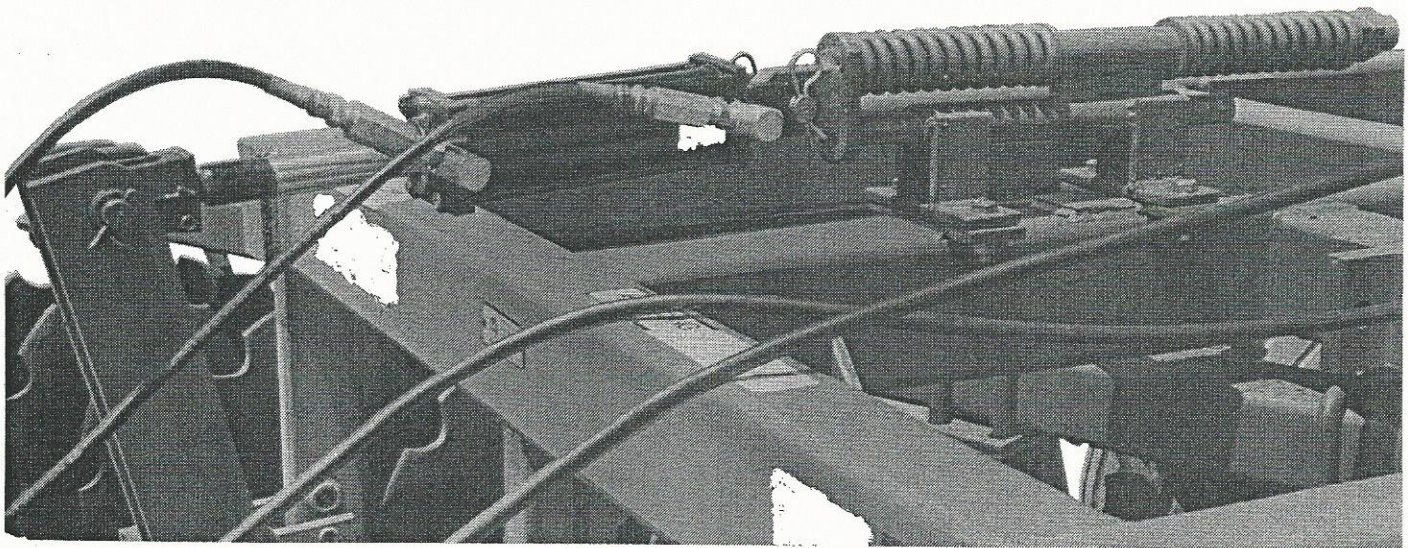

Figure 3
A. Hydraulic (Assembly for machines shipped after September 1985) Figure 3.
- (1) Attach Leveling Bracket Assembly with Springs and Rod to the Center Tube of the Mainframe with (4) $5/8 \times 2$ Bolts, Nuts, and Lock Washers with the Cylinder Anchor forward. The Spring should be compressed just enough to prevent excessive bounce when the machine is in transport.
- (2) Install Butt End of 3 x 8 Cylinder to Lug on end of Leveling Rod Assembly and Rod End to Cylinder Pivot on the Spreader Bar. Insert Retaining Pins securely. Tighten Clevis Locking Bolt.
The leveling of the Offset Disk Harrow is either by Hydraulics (Figures 3 & 5) or Optional Turnbuckle (Figure 6). For Hydraulic Leveling follow the instructions below: